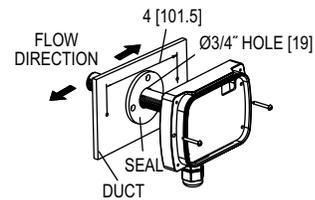

Figure 2C
- To install the enclosure directly on the duct as shown in Figure 2C, drill a $\text{Ø}19$ mm hole on the duct, insert the probe with the seal ring, and screw the enclosure on the duct directly using the two longer screws provided.